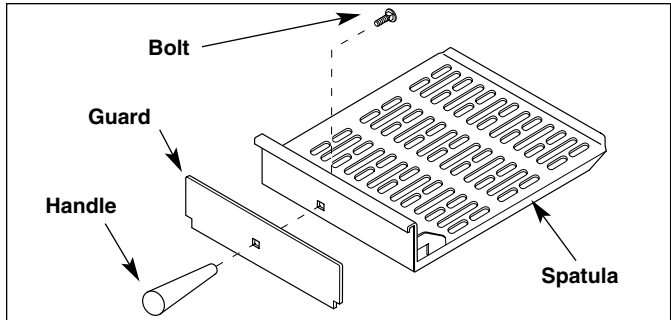

Figure 1. Assembling Handle-MS-150/250 Only
6. **MS-150/250 Models:** Assemble the handle, handle guard and mounting bolt to the spatula as shown in Figure 1.